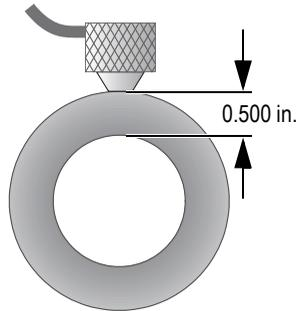

Figure 5-11 Coupling a dual element transducer
- Using moderate to firm pressure, couple the tip of the transducer to the surface of the test material, and keep the transducer as flat as possible on the material surface (see Figure 5-11 on page 62).